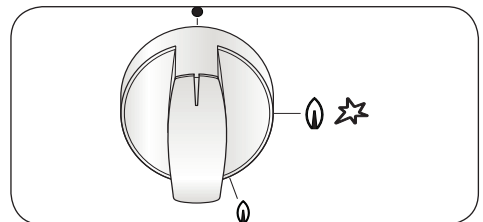

fig. 3
- If the appliance is fitted with a glass lid, this can shatter when heated. Turn off all the burners or disconnect all the plates, and allow them to cool before closing the lid (fig.3)
#### Gas burner knob (fig.3)